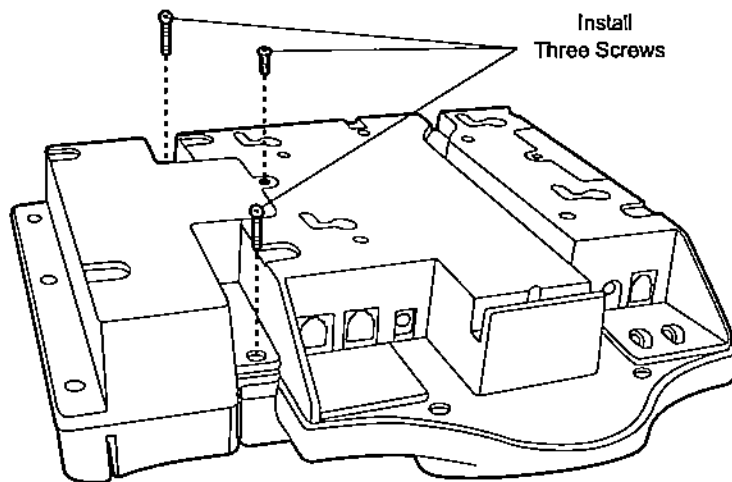

Figure 2-18. Securing the MSR to the MK2000
3. Secure the MSR to the MK2000 as shown in Figure 2-18. Use the shorter screw previously removed and retained, and two new (longer) screws provided with the MSR.